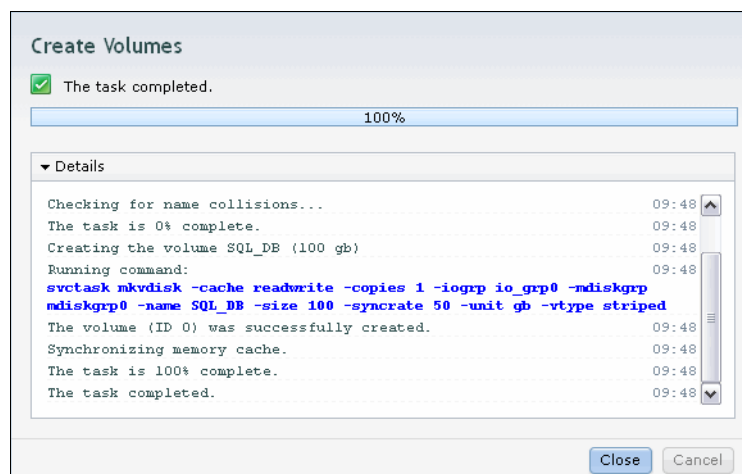

Figure 5-6 Volume created
2. Enter a volume name and size and click **Create and Map to Host**. The new Generic Volume is created (as shown in Figure 5-6). Click **Continue** and see 5.2.1, “Mapping newly created volumes to the host by using the wizard” on page 183.